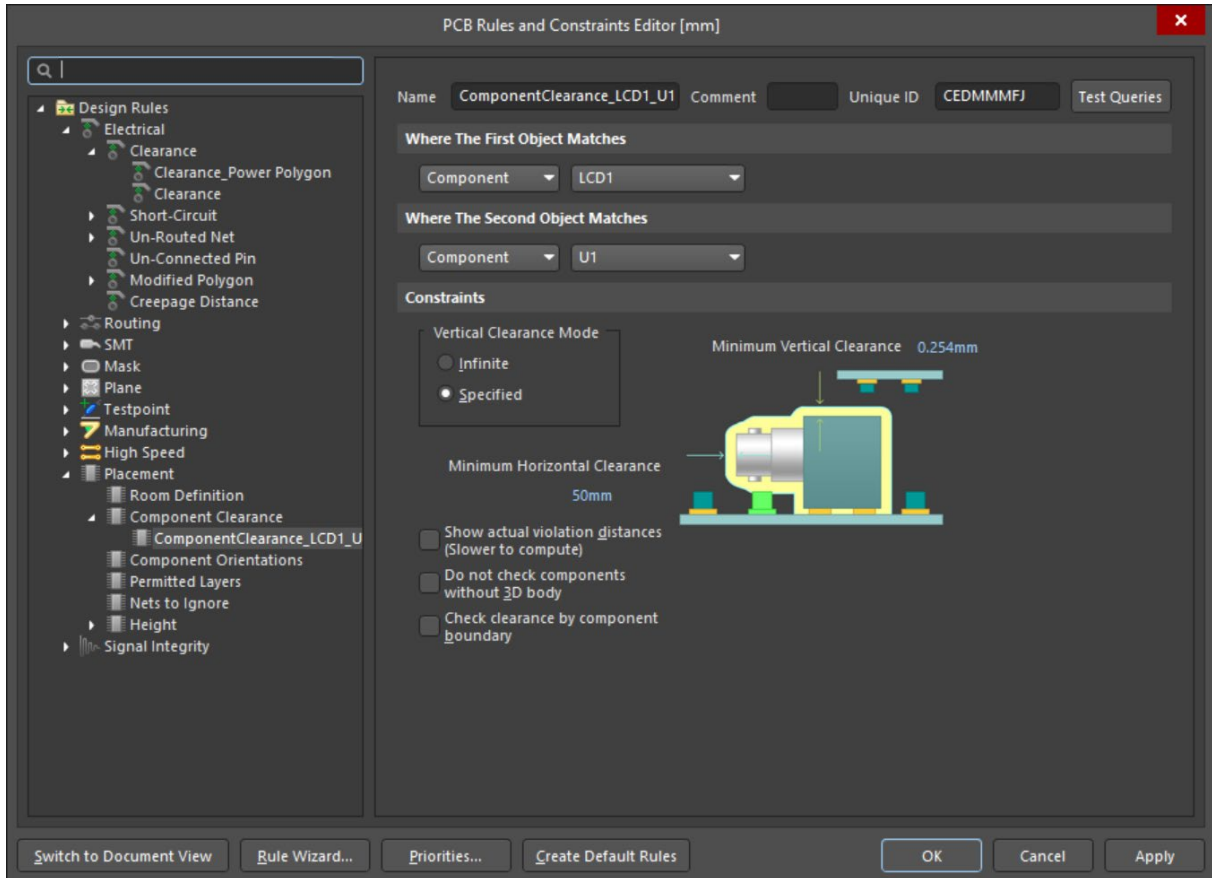

Figure 5. Component Clearance Design Rule for LCD1 and U1
21. In the pane on the left side of the dialog browse to the *Placement - Component Clearance* branch and select the rule `ComponentClearance_LCD_U1`, Figure 5.